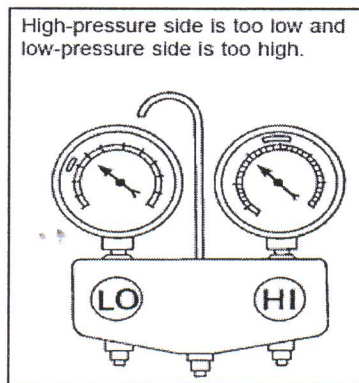

Figure 1
- (a) The reading of a manifold gauge when connected to the refrigeration system is shown in figure 1 in which the pressure on low pressure side is too high and it is too low on high pressure side. From the above reading, explain the possible causes **AND** give the possible corrective actions.